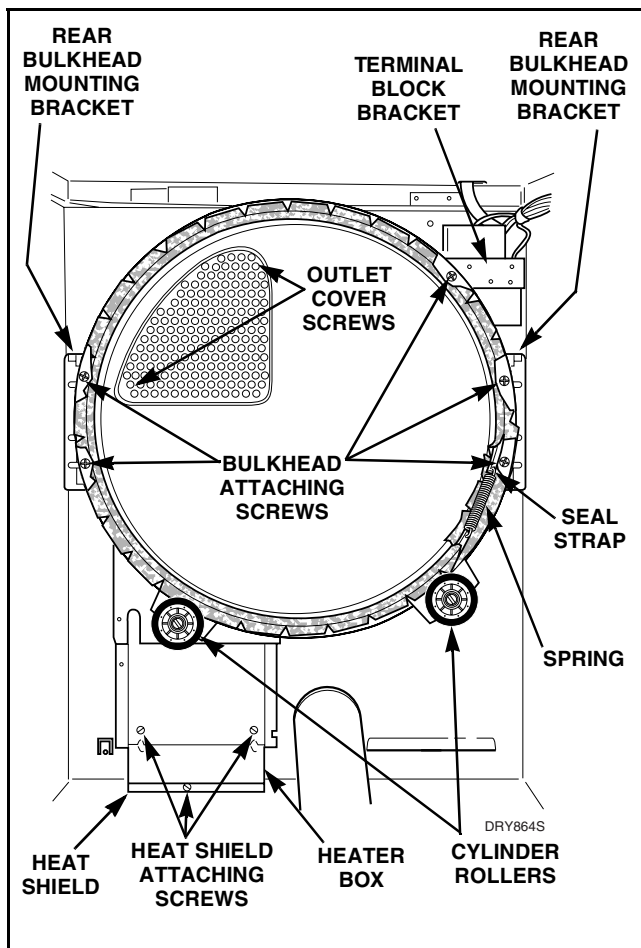

Figure 35
- f. Pull cylinder forward, allowing rear of cylinder to drop down, exposing rollers. Refer to *Figure 35*.
Open door and remove two screws holding outlet cover to rear bulkhead. Refer to *Figure 35*.
- j. Remove screw holding heat shield to dryer base. Refer to *Figure 35*.
- k. Remove one screw holding rear bulkhead to terminal block bracket. While supporting bulkhead, remove the four screws holding rear bulkhead to mounting brackets, then lift complete assembly out of dryer. Refer to *Figure 35*.
- (1) Remove two screws holding heat shield to heater box. Refer to *Figure 35*.